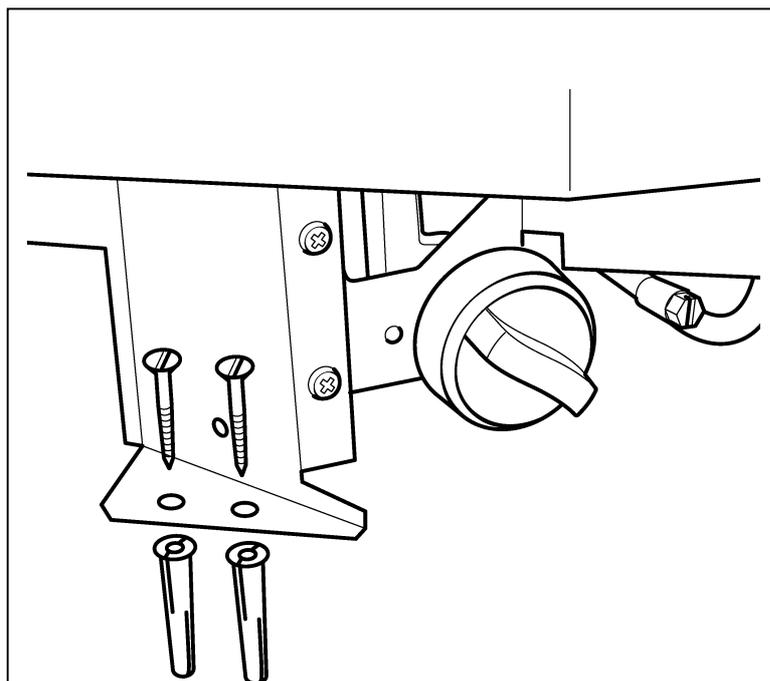

Figure 7. Locating the burner (**Method 1**)
- Replace the burner assembly and fix in position using the wood screws provided (See figure 7)